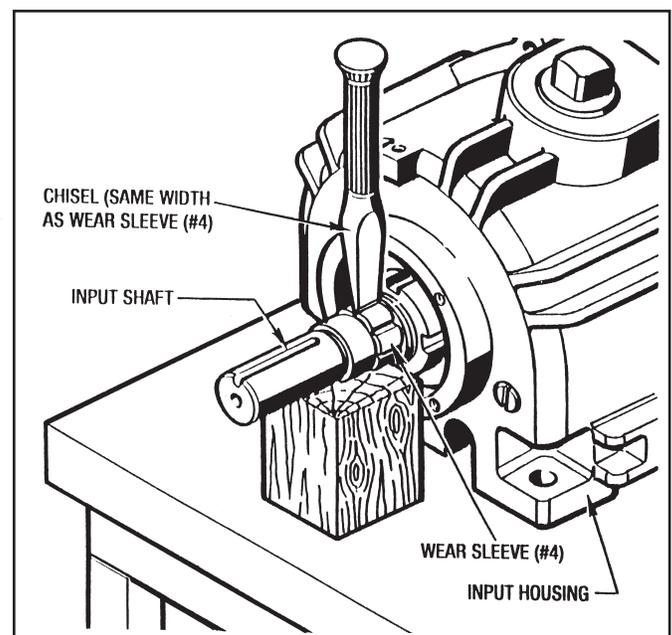

Figure 7.3 - Wear Sleeve Removal (#11 Posidyne Only)
1. Remove (6) Screws (#63) and remove Bearing Retainer (#7), taking care not to damage the lip of the Oil Seal (#31).
4. Remove the Wear Sleeve (#4). See **7-10 WEAR SLEEVE REMOVAL PROCEDURE**. (Figure 7.3)
1. With a chisel the same width as the Wear Sleeve (#4), make about 5 or 6 notches in the Sleeve parallel to the Input Shaft. It can now be removed from the Input Shaft by hand. (See Figure 7.3)